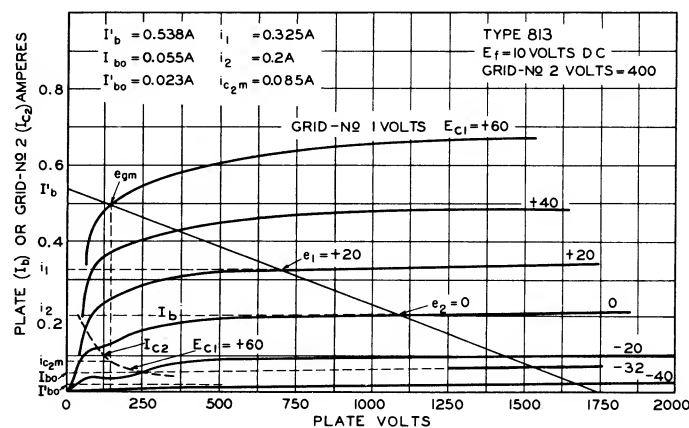

Figure 2. Average plate characteristics of the RCA-813.
The load line can now be drawn on the curve of "Average Plate Characteristics" shown in Fig. 2 after I'_b is obtained by means of equation (9) as follows